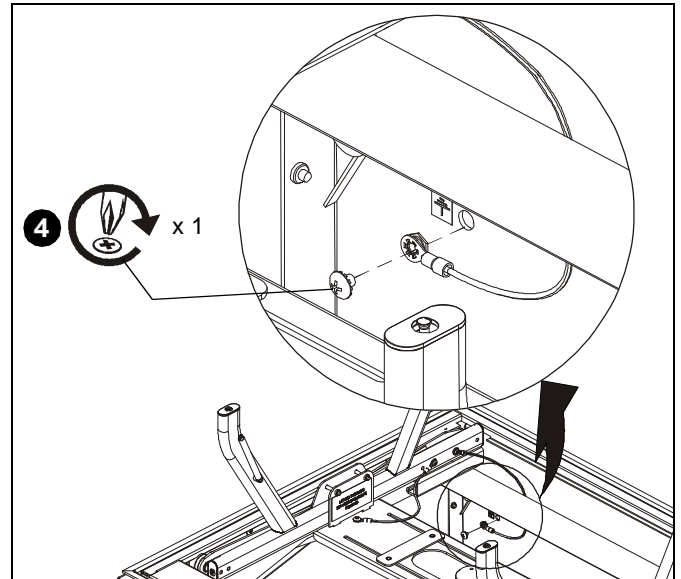

Figure 8
4. Reconnect grounding strap from inside front of SL220 to projector cradle, using the Phillips head screw previously removed. (See Figure 8)